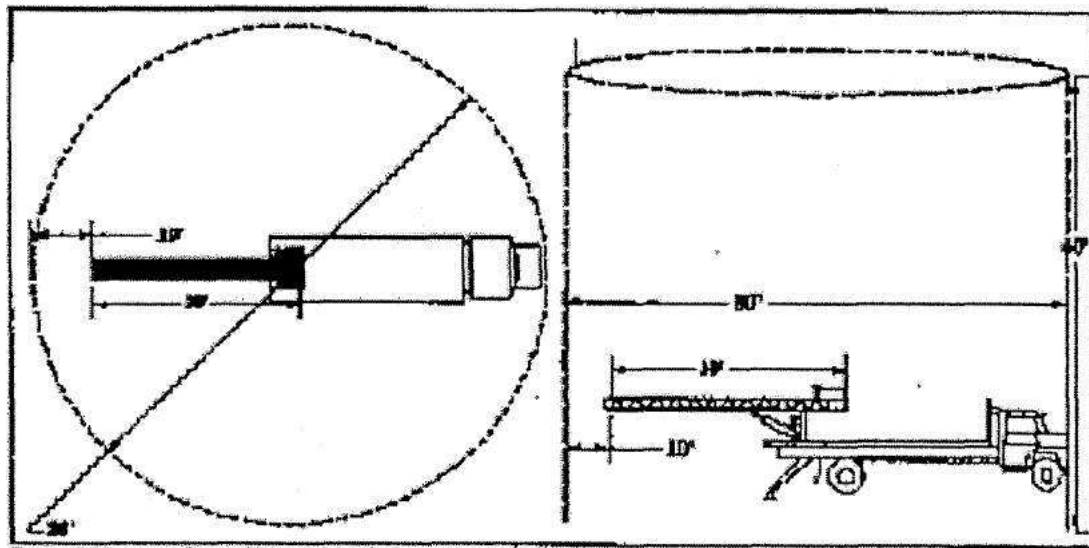

Figure 1-2 Representation width and height of safety zone
6.) Set up the SAFETY ZONE around the truck as depicted in Fig. 1-2 below by use of ropes, barricades or other suitable means. Think of the SAFETY ZONE as a giant tin can, wide enough to allow for an additional twenty (20) feet in all directions surrounding the truck and twice as tall as the height of the conveyor if it were positioned vertically (directed straight-up). For example, if your conveyor is 30 feet long, the diameter of the can would need to be
twice the length of the conveyor plus the extra ten feet as noted, resulting in a diameter of 80 ft. of the imaginary tin can. The height would necessarily be a full 60 ft. (see fig. 1-2 below). The same safety zone for a 26 ft. conveyor would correspond to a base of 72 feet and a height of 52 ft.